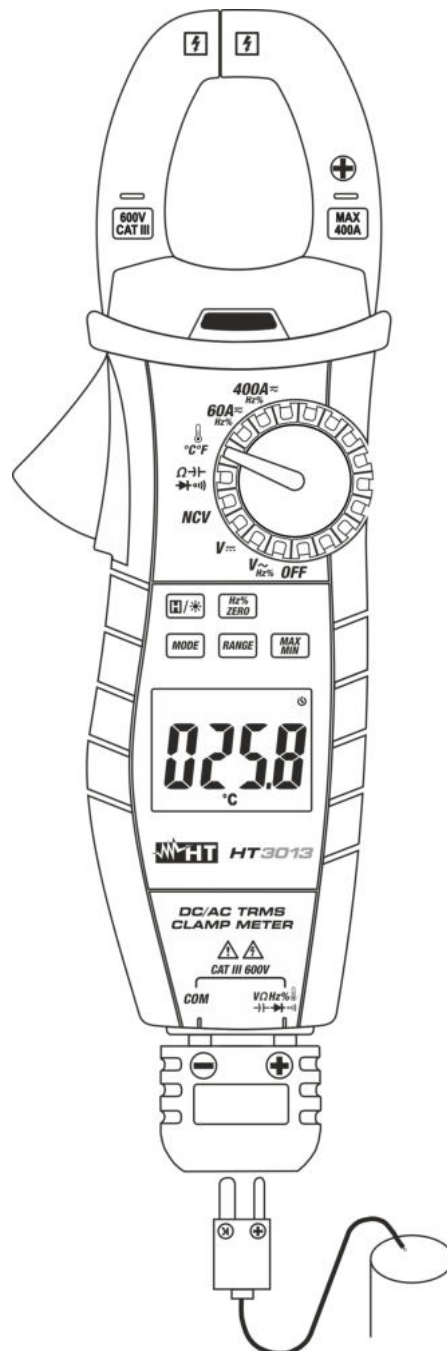

Fig. 10: Use of the instrument for temperature measurement with type K probe
3. Insert the K wire probe provided into input terminal and **COM** by means of the relevant adapter, respecting the polarity indicated in Fig. 10. The display shows the value of temperature.